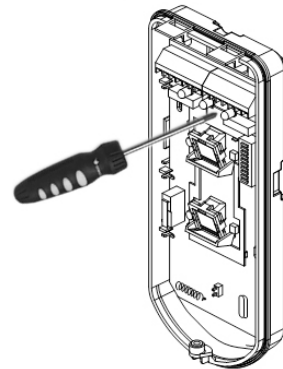

Figure 8: PCB
3. Connect the external base to the swivel using the dedicated snaps (Figure 8).
9. To readjust the Standard Swivel when the PCB is installed (Figure 8):
- b. Use a Hex screwdriver to release the locking screw (see Figure 8).